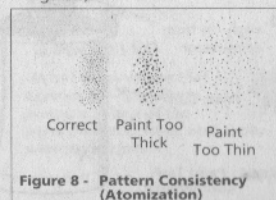

Figure 8 - Pattern Consistency (Atomization)
adjusted only at the compressor's pressure regulator. Spray test patterns on scrap cardboard with gun 8" away from surface. Trigger short, one second bursts and make adjustments with this knob until the pattern is the desired oval shape and the material is evenly distributed on the surface with no heavy or thin spots. The pattern should feather out at the edges (See Figure 8).
4. With gun 8" away from surface, trigger a short, one second burst while turning fluid control knob counterclockwise. Observe the spray pattern on the target and adjust the fluid control knob until the desired pattern (atomization) is obtained (See Figure 8).